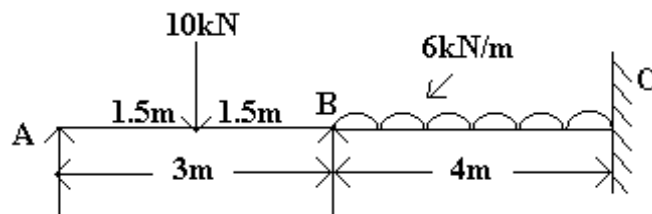

Figure 3:
7. Two steel bars having C.S.A of 20mm^2 are connected in series as shown in Figure 3 The bar AB is of length 1m while BC = 2m. If $E = 200 \text{ GN/m}^2$ develop the flexibility and stiffness matrices and show that $[F] [K] = [I]$. [16]